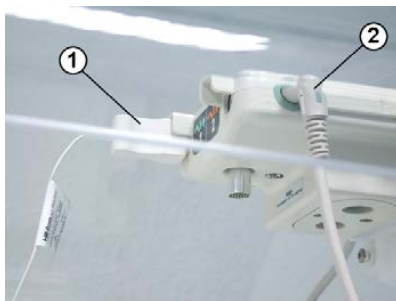

Fig. 41 Sensor module: Connectors for skin temperature sensor and scale
- 3 If necessary, disconnect the scale cable assembly from the sensor module assembly (Fig. 41/2).